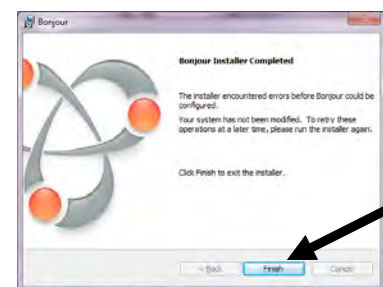

Figure 6
10. Click on Finish once Bonjour is installed (see Figure 6).